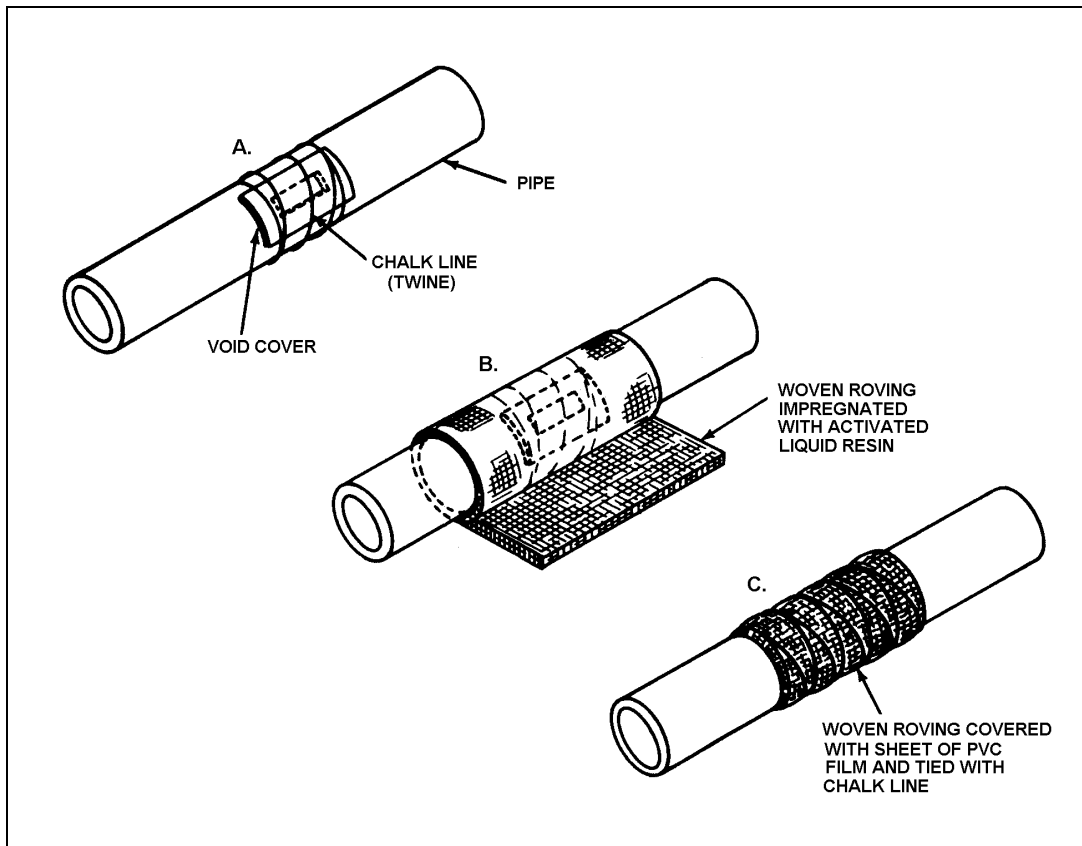

Figure 22-23. Simple Pipe Patch
- Coat both sides of the void cover with the resin-hardener mixture and tie the void cover over the rupture with chalk line as shown in Figure 22-23, step A.
- Center the woven roving cloth over the void cover with the impregnated side toward the pipe. Wrap it around the pipe not less than three turns and preferably not more than four turns (see Figure 22-23, step B).
- Wrap the PVC film around the entire patch making at least two complete turns. Tie the PVC film with the chalk line, starting from the center of the patch and working toward one end, making 1/2-inch spacing between spirals (see Figure 22-23, step C). Tie this end securely but do not sever the line. Make one spiral back to the center of the patch, then working to the opposite end, form the center of the patch. Make 1 1/2-inch spacing between spirals and again secure the line. After 30 to 40 minutes the patch should be sufficiently cured to restore the pipe to service.